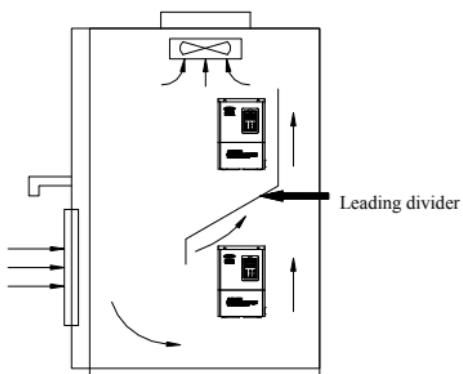

Fig.3-2 Mounting of multiple inverters
(3) When installing multiple inverters up and down, leading divider must be applied between them, See Fig. 3-2.